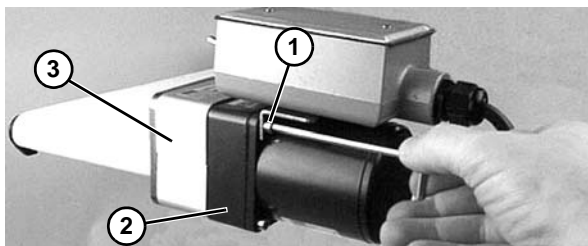

Figure 52
3. Remove four (4) screws (Figure 52, item 1). Remove gearmotor (Figure 52, item 2) and top cover (Figure 52, item 3).
7. Insert top cover (Figure 52, item 3) into bottom cover. Mount assembly with two (2) top screws (Figure 52, item 1). Tighten to 45 in-lb (5 Nm).